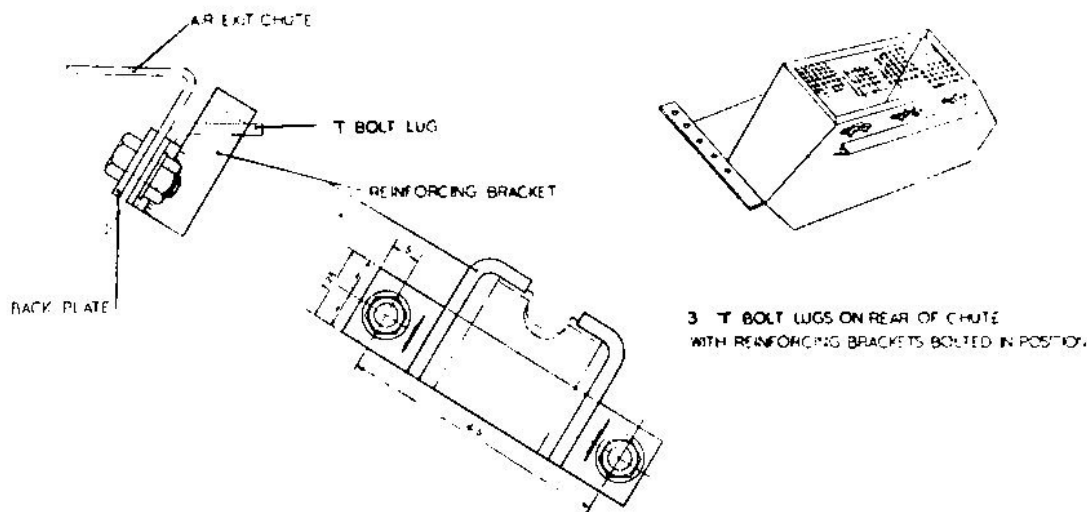

Fig. 28. Reinforcing brackets for T bolt lugs.
- (1) Position each reinforcing bracket and press down firmly on lugs.
- (2) Mark bolt holes to dimensions shown on Fig. 28.
- (3) Drill bolt holes.
- (4) Fix brackets with bolts, back plates, spring washers and nuts provided. From inside the air exit chute, pass bolts through each plate and holes drilled at (3) above.
- (5) The following additional parts are required :—